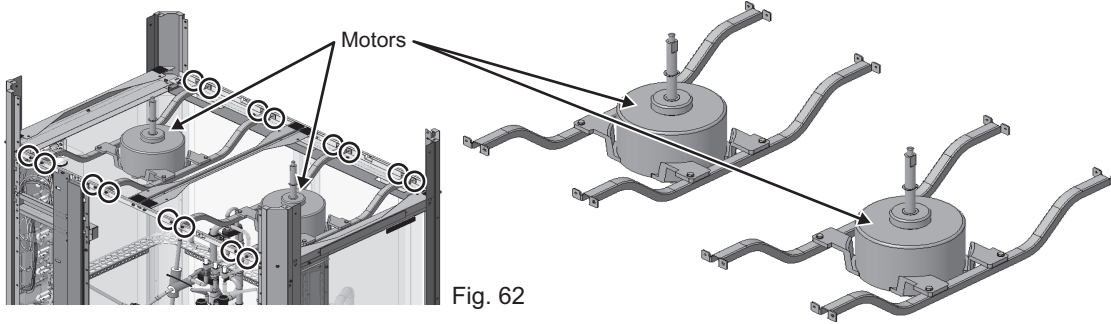

Fig. 62
(9) Remove the motors. (16 screws: Fig.62)